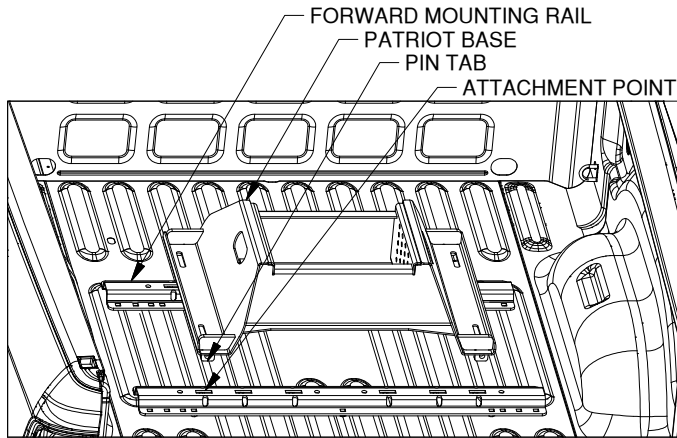

FIGURE E1: View into truck bed looking towards tailgate.
1. **Position the forward mounting rail.** For this step the base which will be used in the mounting rails is required. Place a mounting rail into the truck bed in front of the rear mounting rail. Place the base over the rail attachment points and carefully lower it until the pin tabs pass through the attachment points on the rear mounting rail. Attach the forward mounting rail to the forward mounting points on the base. The base should rest flat against the top of the rails, see Figure E1. With the base still attached ensure that the forward rail is centered in the truck bed.